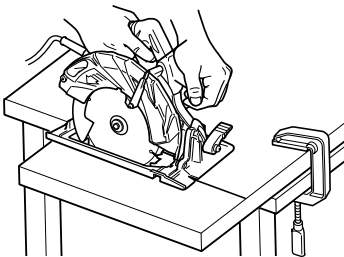

Fig. 8
- As shown in Fig. 8, be sure to hold the round handle securely with both hands when cutting. Contact with "live" wire will make exposed metal parts of the power tool "live" and shock the operator. In addition, make sure to secure the work piece with a clamp when cutting.